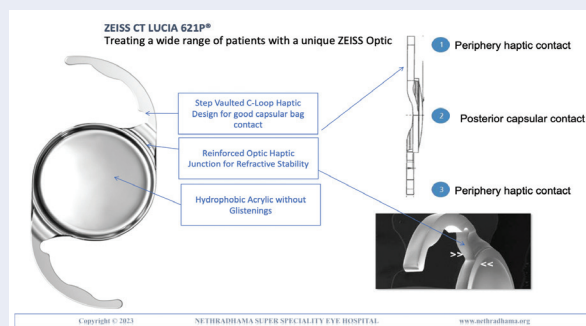

Figure 1. The ZEISS CT LUCIA 621P IOL features a unique hydrophobic acrylic optic and step-vaunted C-loop haptics.
ZEISS' new IOL, the CT LUCIA 621P, is a hydrophobic, single-piece, acrylic IOL that features the aspheric ZO optic design. It has a step-vaunted C-loop haptic, designed for maximum contact with the posterior capsule and with the periphery, and a reinforced optic-haptic junction for refractive stability (Figure 1). The CT LUCIA 621P IOL is implanted with a preloaded injector, which is easy to load and simple to use (Figure 2). The surgeon simply instills viscoelastic over the lens, folds the IOL's wings, and clicks the IOL into place.
Figure 1. The CT LUCIA 621P IOL (A) and the Alcon Clareon IOL (B), both +21.00 D lenses, were implanted on the same day, using the same instruments, minutes apart. The same microscope light intensity was used in both pictures. The reflection seen from the Clareon IOL demonstrates that a high refractive index equals high reflectance.